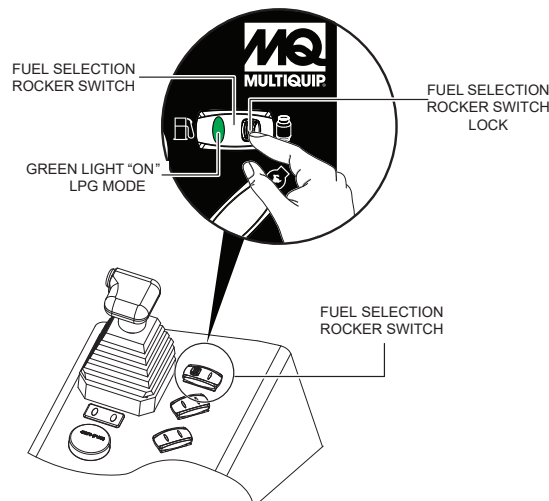

Figure 21. Fuel Selector Switch (LPG Mode)
9. To select the **LPG** mode, press down on the right side of the fuel selection rocker switch. The **GREEN** light is **ON** (Figure 21).